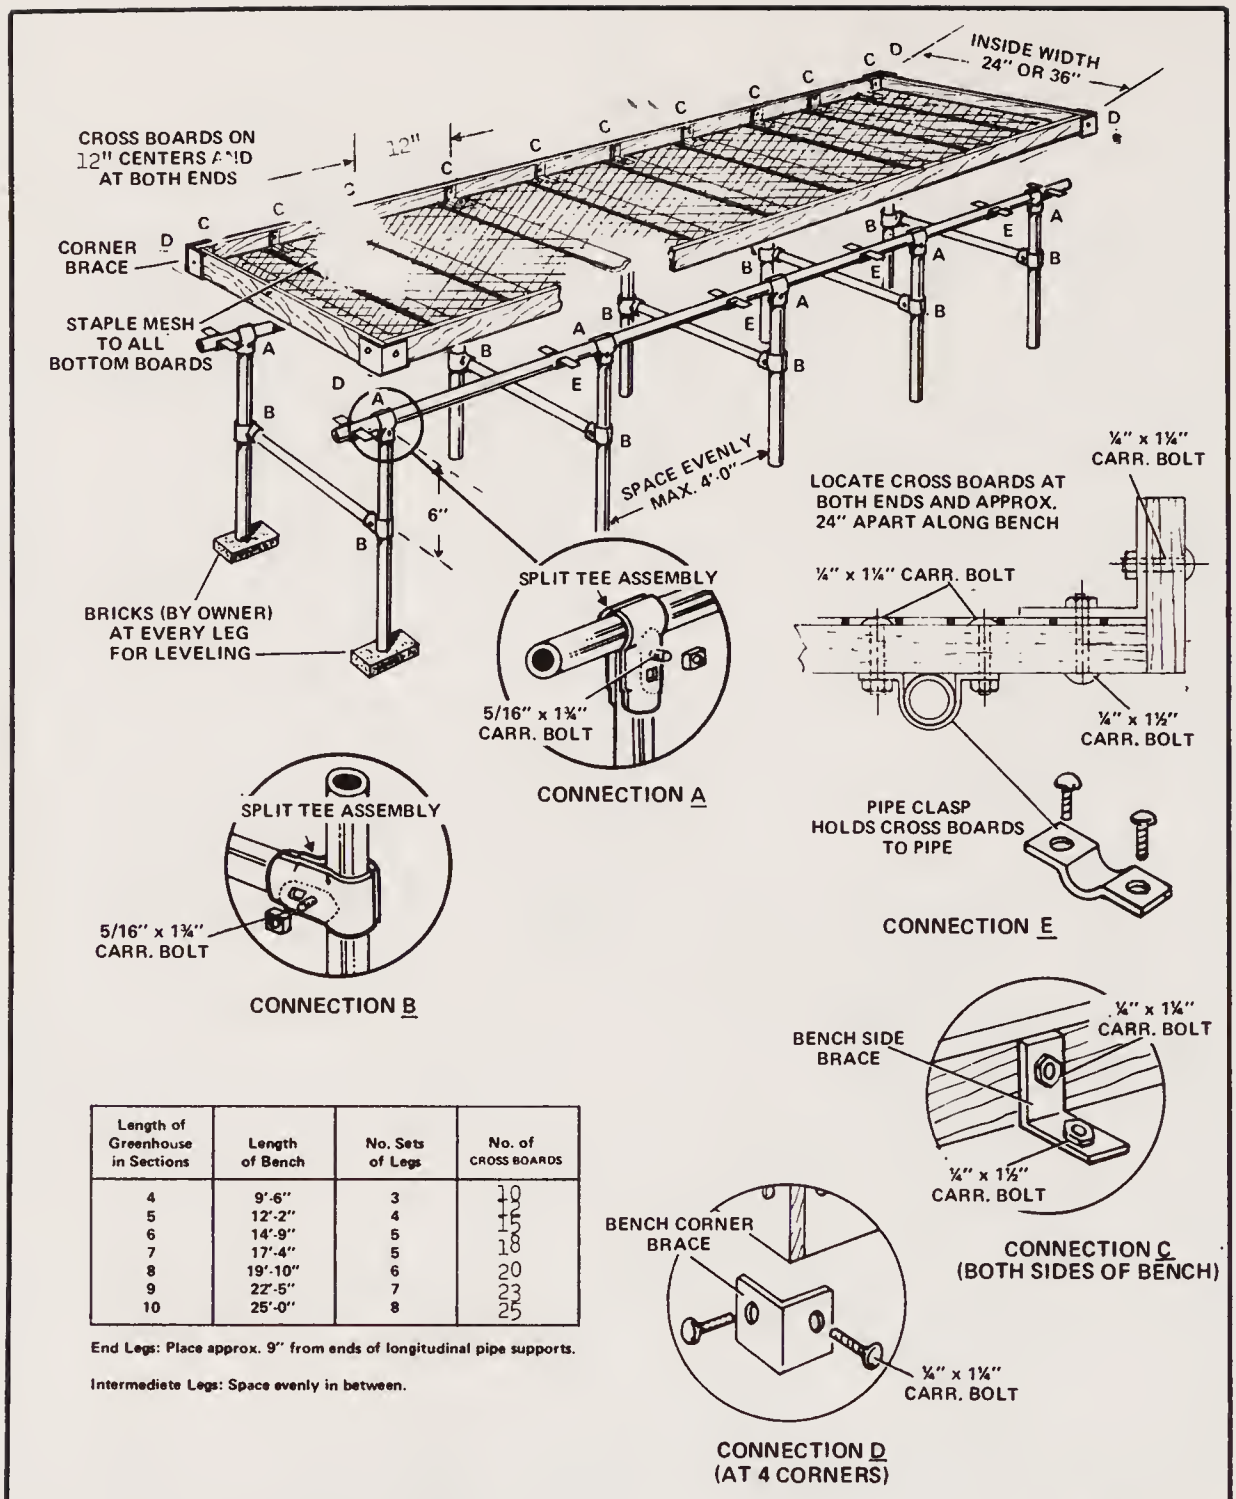

Fig. 1-37. Wooden bench details.
**Wire Mesh Benches.** Benches of wire mesh are widely used in pot plant culture and are excellent in providing air drainage and insect control. The construction is simple (Figs. 1-37 and 1-38). The framework can be made of 2-inch to 4-inch wood. The welded wire fabric is then stapled to the framework. A 1" x 2" welded mesh 12½ or 14-gauge provides excellent results with the heavier being preferred because sagging could be a problem. To minimize sagging, cross support should be spaced 2 feet apart, but care should be taken to set the pots evenly to avoid sagging. Staples should be 1¼" to 1½" long and the use of galvanized wire and